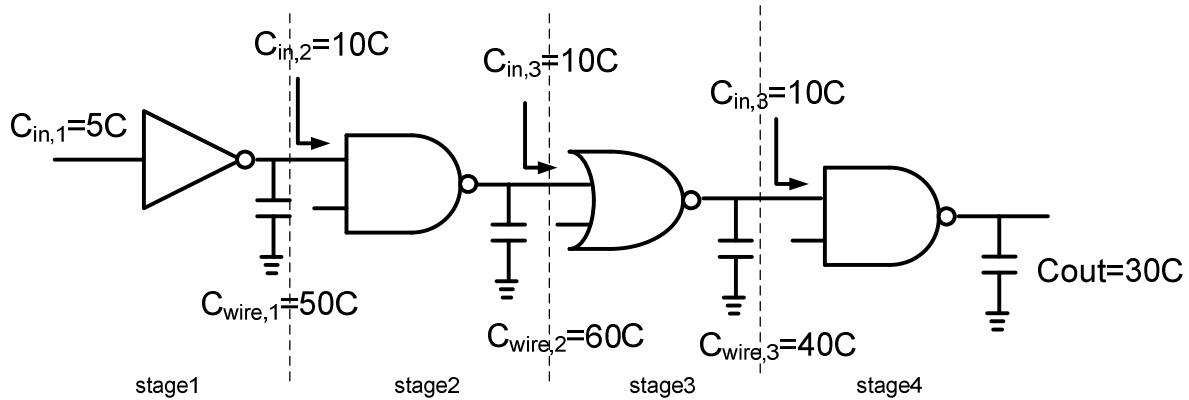

Figure 4
4. Consider the circuit shown in Figure 4.  $C_{in,i}$  represents the input gate capacitance, and  $C_{wire,i}$  represents the wire capacitance. [18 points]
(b) Keeping the number of stages fixed at 4 as in Figure 4, now consider sizing up each gate by 2X (including the inverter). What is the new path effort of each stage? What is the total path effort? List two disadvantages of sizing up the gates? [8 points]